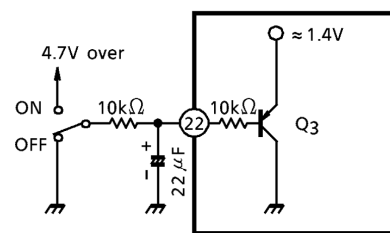

Fig.4
Pin(22) is coupled to the base of Q₃ (PNP-Tr) through 10kΩ resistance as shown in Fig.4.